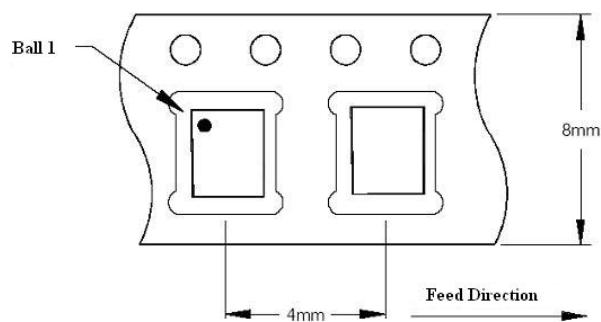

Figure 4
0.5A FlipKY are supplied in tape and reel format. The position of Ball 1 is standard for all 0.5A FlipKY devices (shown in Figure 4). The Ball 1 mark corresponds to one of the two cathode bumps.